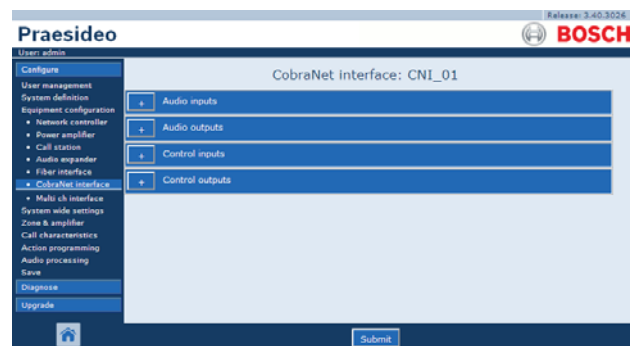

figure 43.35: Configure CobraNet interface step 2
- 2 Click the name of the CobraNet interface that must be configured. A screen similar to the one in figure 43.35 appears in the main frame of the web interface.